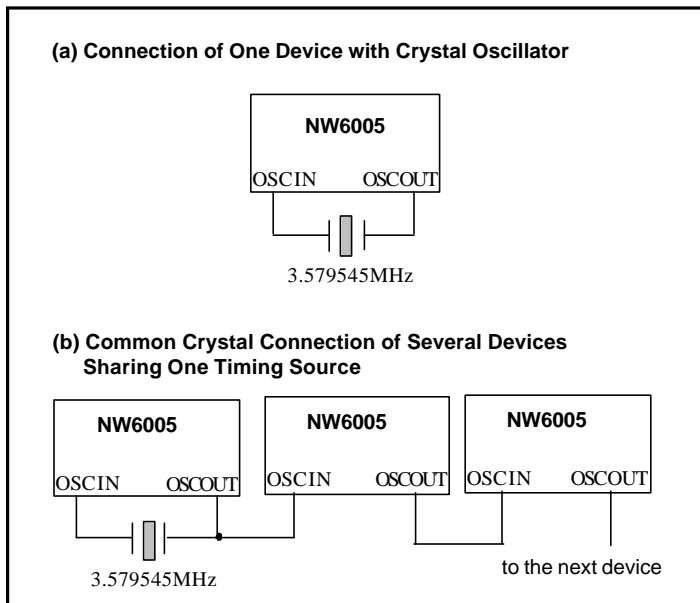

Figure 8. Application of Clock Driven Circuit
A 3.579545 MHz crystal oscillator or other external clock source is required for NW6005. The crystal can be directly connected between OSCIN and OSCOUT pins without any external component. If an external clock source is used, OSCIN pin should be driven by the clock source and OSCOUT pin is left floating or is used to drive other devices. Fig. 8 shows some applications.
- 2) By choosing $t_{GA} = 15 \text{ ms}$, t_{ABS} will be 15-25 ms (refer to Fig. 8). Current wetting pulse and AC/DC load should be applied right after the STD rising edge.